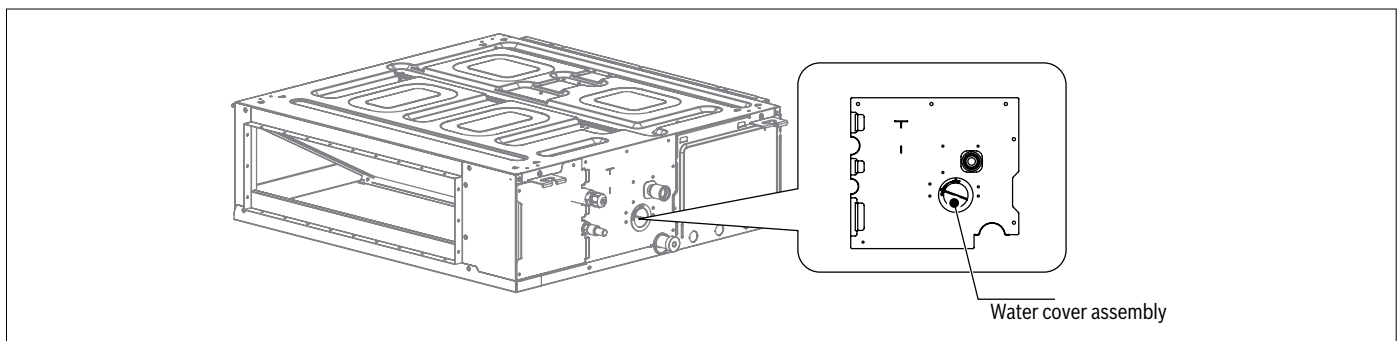
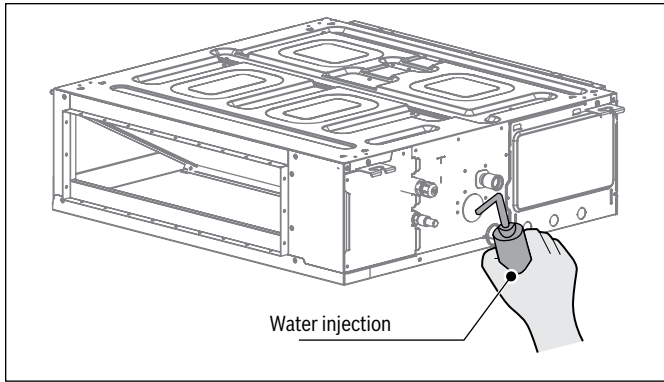

Figure 25
Figure 26
- If water is drained through the indoor unit drain pump, loosen the water cover (black round plastic piece) on the unit during the drainage test and check whether the drain pump is operating. If the drain pump has not been started, check whether the drain pump has malfunctioned. Note: The drain pump only starts in cooling mode. While in heating mode, the drain pump remains turned off. After the water drainage test is completed, install the water cover assembly in position. For details on the water cover assembly and the water injection pipe, see Figure 25 and Figure 26.